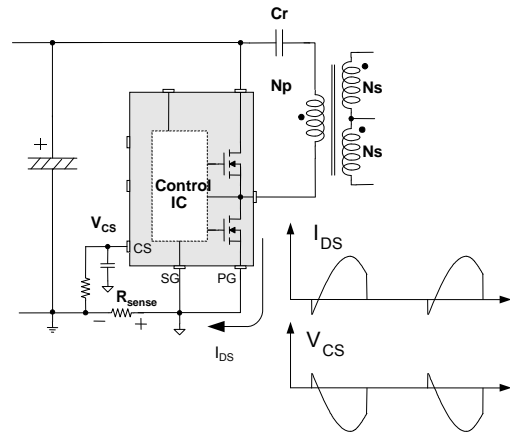

Figure 27. Half-Wave Sensing
8.1 Resistive Sensing Method: The IC can sense drain current as a negative voltage, as shown in Figure 27 and Figure 28. Half-wave sensing allows low power dissipation in the sensing resistor; while full-wave sensing has less switching noise in the sensing signal. For a time constant range for the filter, 3/100~1/10 of the operating frequency is reasonable.